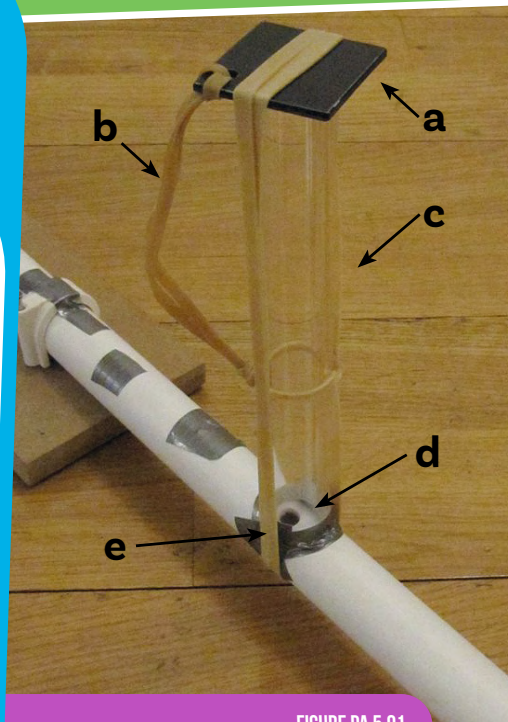

FIGURE PA 5.01
A home made pressure release valve, like the one in the figure PA 5.01, will burst open when the pressure from the launch pump reaches a certain level.
1. How might you modify the pressure release valve in figure PA 5.01 so that more pressure could be used at launch before the valve burst open?